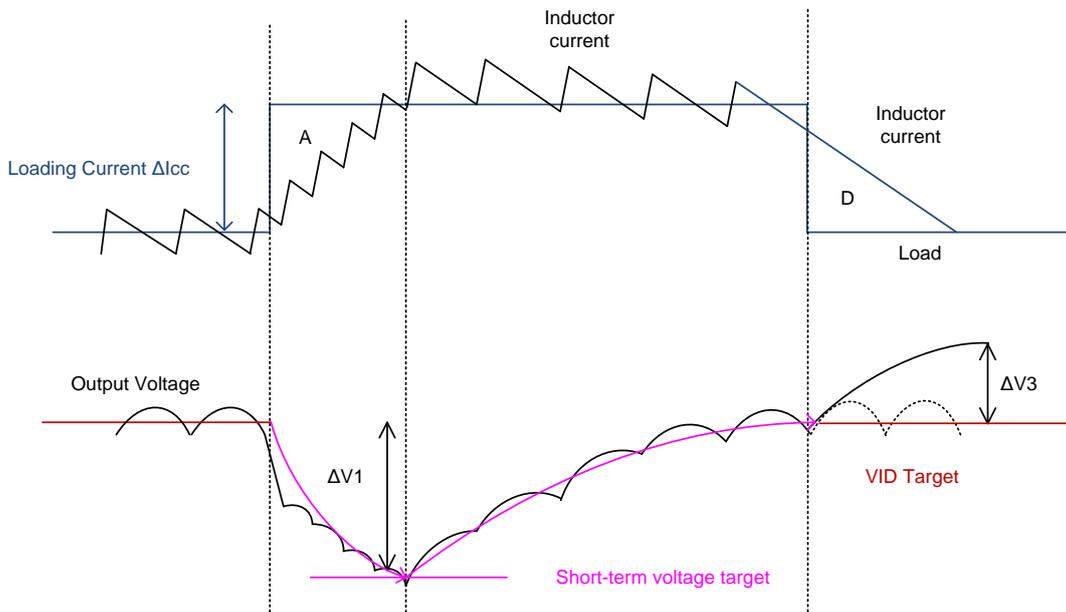

Figure 12. Zero Loadline with AC-droop Control
Figure 12 shows the condition with AC-droop control. While loading occurs, the controller temporarily changes VID target to short-term voltage target. Short-term voltage target is related to transient loading current ΔIcc and can be represented as the following:
where the Vcs_sum is the sum of current sensing signal from DCR sensing or SPS current sensing. For DCR sensing, the Vcs_sum = Vcspsum - Vcsnsum = Iout_sum x DCR/N. The current gain (AI) can be set by Pin Setting of AI Gain. Users can adjust AI gain by I²C register 0x41[3:2] to set desired short-term voltage target. The short-term voltage target reverts to VID target slowly after approximately 100μs. The short-term voltage target can help inductor current not to exceed loading current too much and then the ring back can be suppressed. Referring to Figure 12, the overshoot amplitude is reduced to only ΔV3.